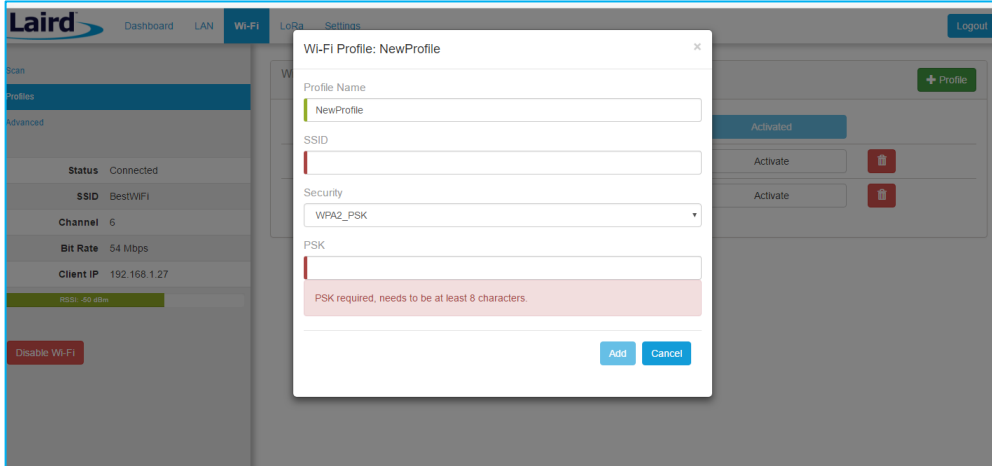

Figure 25: Wi-Fi profile dialog
2. Click **+ Profile** to display the Wi-Fi profile dialog (Figure 25).